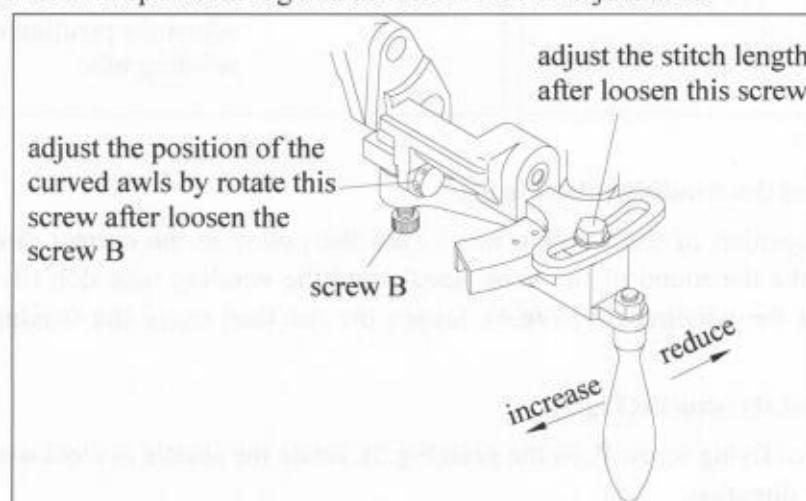

Fig.7
4.5 Adjustment of the stitch length(Fig.7):
To adjust the stitch length(Fig.7): loosen the screw A then move the adjusting handle as shown in Fig.7. to adjust the stitch length.
4.6 Adjustment of the curved awl's position(Fig.7):